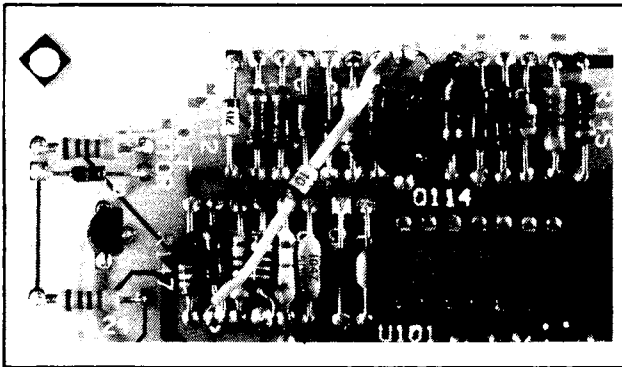

Figure 2-4. A3CR123 Installation
Read the entire set of instructions and review Figure 2-4, "A3CR123 Installation" before beginning. Review the general safety consideration and the static sensitivity topics in Section VIII of the Service Manual.
K. Wrap the lead from the cathode (the end with the stripe of A3CR123) to the A3R146 tie point. This lead should make one full turn around the tie point to insure good mechanical contact, the lead should have a slight bend to relieve stress and the end of the flexible tubing should end  $<.1$  inch from the tie point. See Figure 2-4, "A3CR123 installation".
from the tie point. See Figure 2-4, "A3CR123 Installation."